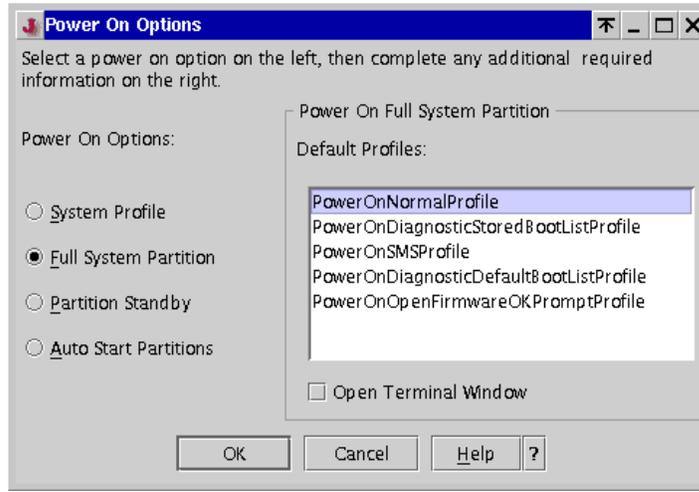

Figure 3-6 Power On Modes panel
To power on the managed system, open the Server Management application from the Server Management folder and select the managed system in the Contents area. From the menu bar choose **Selected** → **Power On**. A panel opens that offers the four power-on modes shown in Figure 3-6 on page 62: System Profile, Full System Partition, Partition Standby, and Auto Start Partitions.⁷
- Full System Partition** Only one AIX operating system image is activated that has access to all resources of the managed system. The operator panel on the media drawer displays all progress codes during the boot process. The Full System Partition has predefined profiles, as shown in Figure 3-6. You cannot change, add, or delete them. The predefined profiles are as follows: